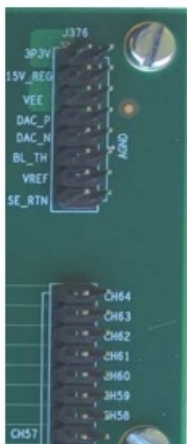

Figure 5. Location of Mating Connectors J376, J359 on the LX7730 Daughter Board for the Sensors Demo board
- Fit the Sensors Demo board to the LX7730-DB, removing the grand-daughter board first (if fitted). Demo board connector J10 plugs into LX7730-DB connector J376, and J2 fits in the top 8 rows of connector J359 (Figure 5 below)